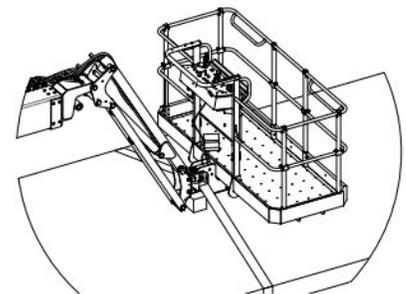

Figure 32 Platform tie-down
1. Ensure that turret is positioned so that turret transportation lock tube (item 2 – Figure 32) is aligned into one of two turret locking points on the chassis.
2. Lift turret lock retaining pin (item 1 – Figure 32) and rotate 90 degrees. Lower turret lock retaining pin into locked position.